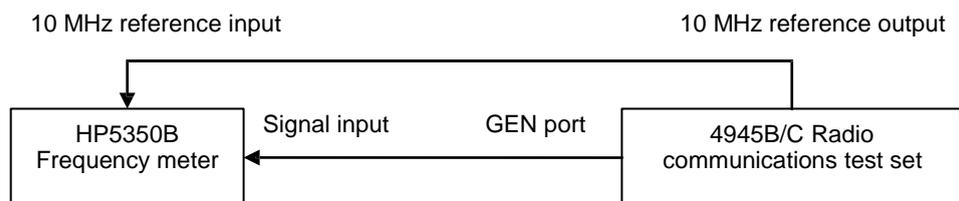

Fig. 6-7 Block diagram for RF signal generation frequency characteristics test
- 1) As shown in Fig. 6-7, connect the test instrument, set 4945B/C to the radio frequency TR mode, with the output frequency of 1 MHz and the amplitude of + 5 dBm; Set the impedance of the frequency meter to 1 M Ω , and record the measured value of the frequency meter at this time in corresponding space in Table A.1;